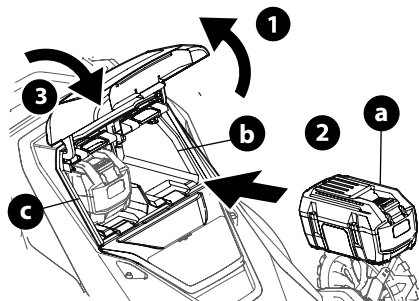

Figure 11
2. Slide one battery (a) into right side battery port (b) (as standing in front of mower) so that the battery indicator light faces up from the battery port (Figure 11).